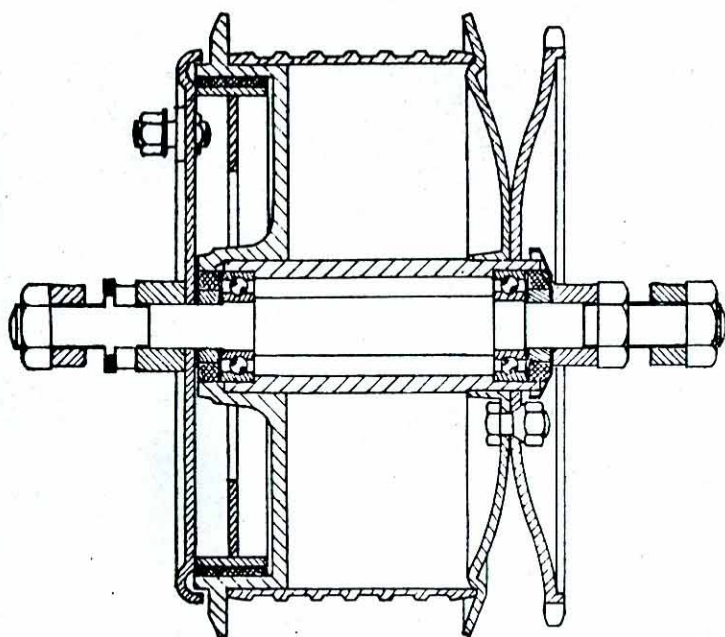

FIG. 6—HUB WITH RIGID JOURNAL BEARINGS
**HUBS, DISMANTLING AND RE-ASSEMBLY. RIGID BALL JOURNAL TYPE.** The following directions apply to all front and rear hubs NOT having adjustable cones. See Fig. 6. Remove the spindle nuts and the locknuts and distance pieces from either end of the spindle, placing them in such a position that it will be quite clear which goes where, when re-assembling. The brake plate assembly may now be removed together with any washers with which it may be packed out. The spindle may now be drifted through the hub in either direction. It will bring with it a journal bearing together with felt and pensteel washers, the positions of which should be noted so that they may be re-assembled correctly. The remaining bearing together with its felt and steel washers may be drifted out. Wash all parts in paraffin or petrol removing all traces of the old grease from the bearings. Check the bearings for wear and rough running. A small amount of slack in this type of bearing will certainly be noted when the grease is removed. This is the normal running clearance and should not be confused with wear.